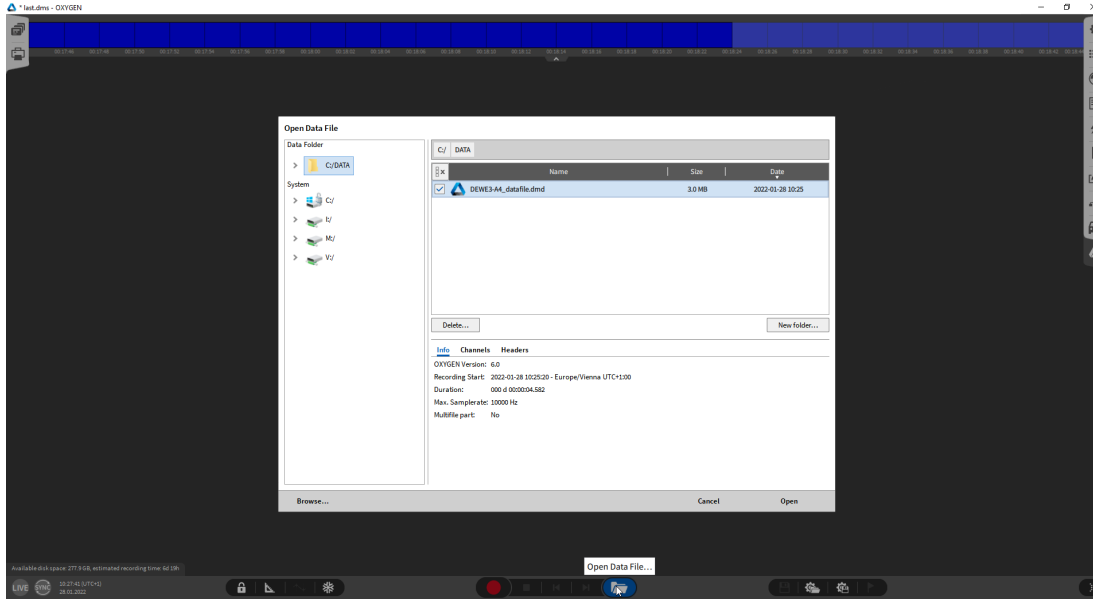

Fig. 24: Opening data file
1. Click on the file button, and select the corresponding file (see Fig. 24).